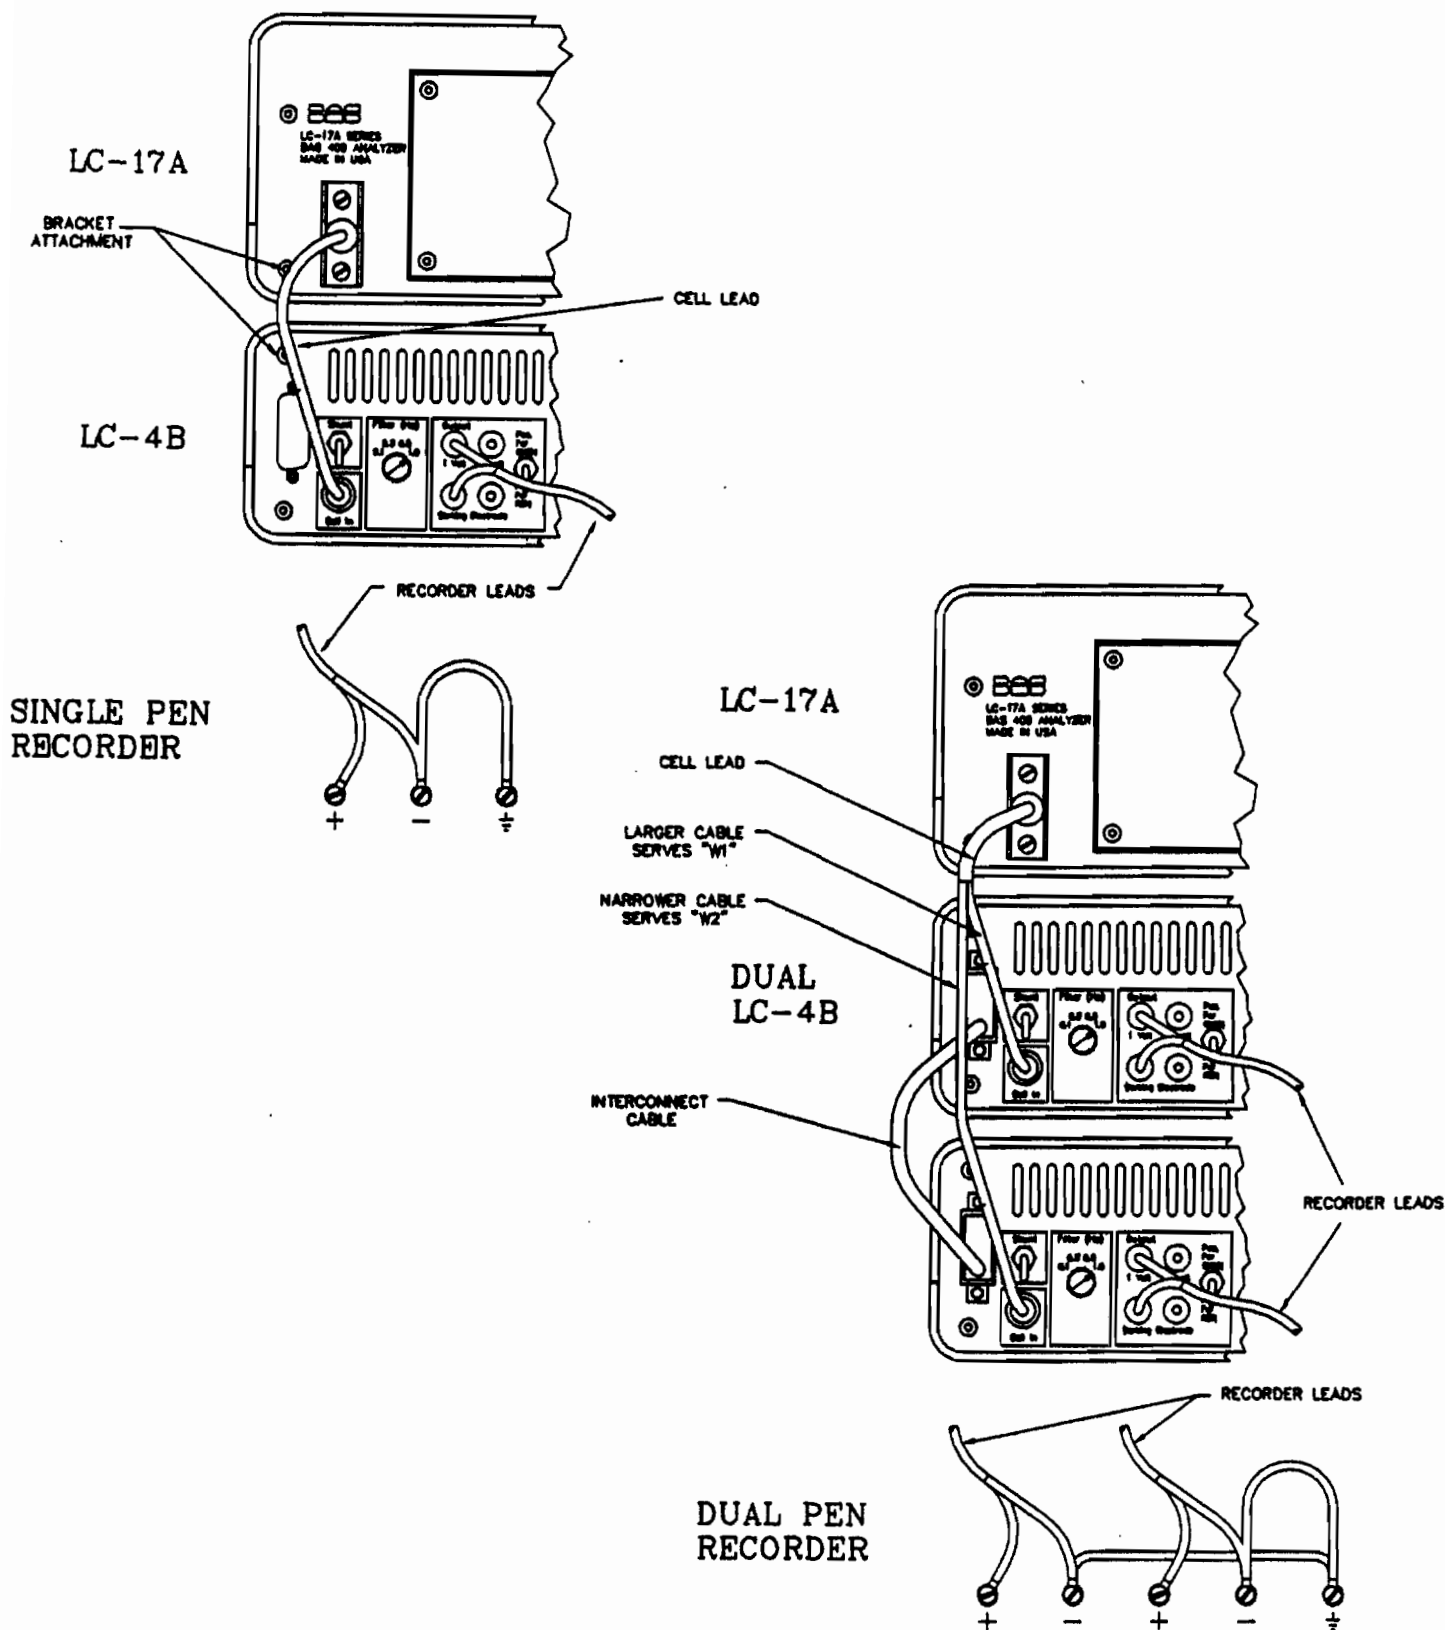

Figure 3-9. Connection of leads to LC-4B(s) for single (left) and dual (right) operation.
3. Connect the electrode cable (single or dual) from the LC-17A(T) to the LC-4B(s) per Figure 3-9. Clip the cable shield into the locking notch on the detector cable bracket, per Figure 3-10. Tilting the LC-17A(T) backwards slightly helps. Push down on the cable shield to lock it in place.
4. If you are installing dual LC-4B's, attach the interconnect cable per Figure 3-9. Screw it down into both connectors securely.
- a. On each LC-4B, there exist 2 sets of output jacks. See Figure 3-9. Use the green and black sockets for a 1.0 V recording device. Use the blue and black sockets for a 10 mV full scale recording device.